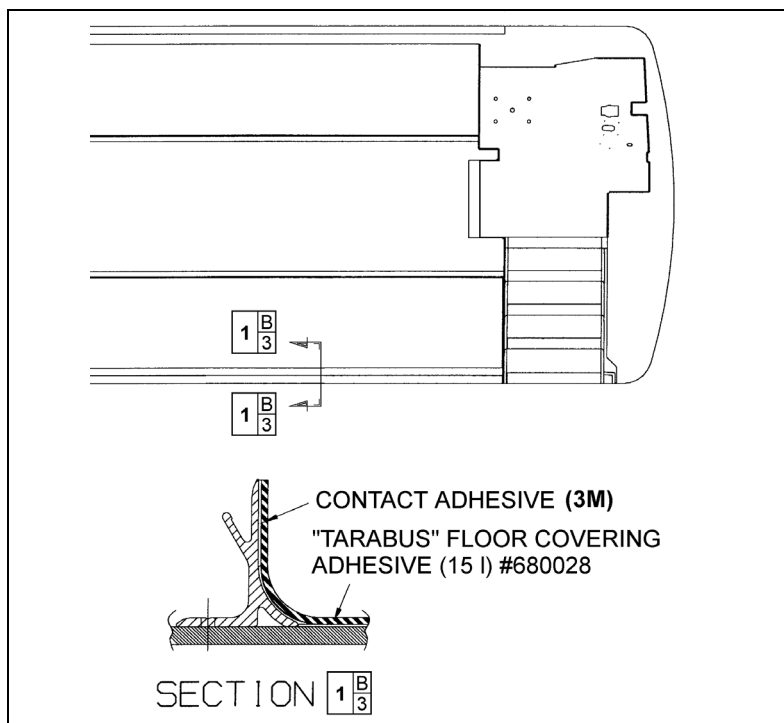

FIGURE 93: TARABUS FLOOR COVERING ADHESIVE APPLICATION
8. Apply Sikaflex 221 gray sealant (680532) alongside passenger seat fixing tracks (refer to Figure 93).